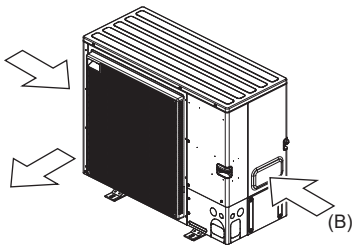

Fig. 2-6
(3) Position the unit so that the air outlet blows perpendicularly to the seasonal wind direction, if possible. (Fig. 2-6)